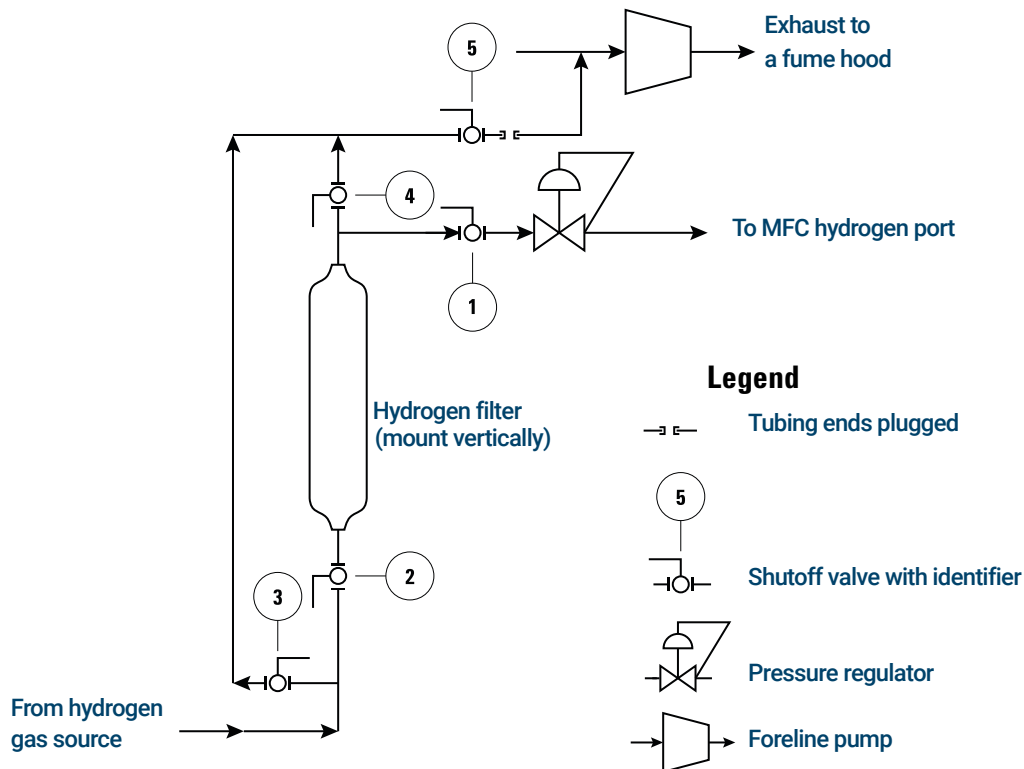

Figure 22. Filtered hydrogen supply to the MS
Figure 22 illustrates the plumbing for the hydrogen filter used with JetClean.
- 1 Close the hydrogen supply manual shutoff valve ① labeled hydrogen, to the mass flow controller (MFC). (See **Figure 22** on page 46.)
- 2 Close the manual shutoff valve ② on the hydrogen supply filter inlet.
- 5 Verify the filter bypass line exit shutoff valve ⑤ is closed and remove the threaded plug from this valve.
- 7 Attach the filter bypass line exit valve ⑥ to the tubing line attached to the foreline pump inlet.
- 10 Open the shutoff valve ⑤ on the filter outlet line going to the foreline pump inlet. This evacuates hydrogen from the filter through the foreline pump to a lab hood exhaust.
- 11 After 10 minutes, close the shutoff valve ⑤ on the filter outlet line going to the foreline pump inlet.